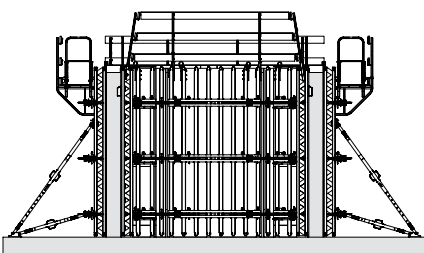

Fig. A4.01
5. Concrete the first section. (Fig. A4.01)